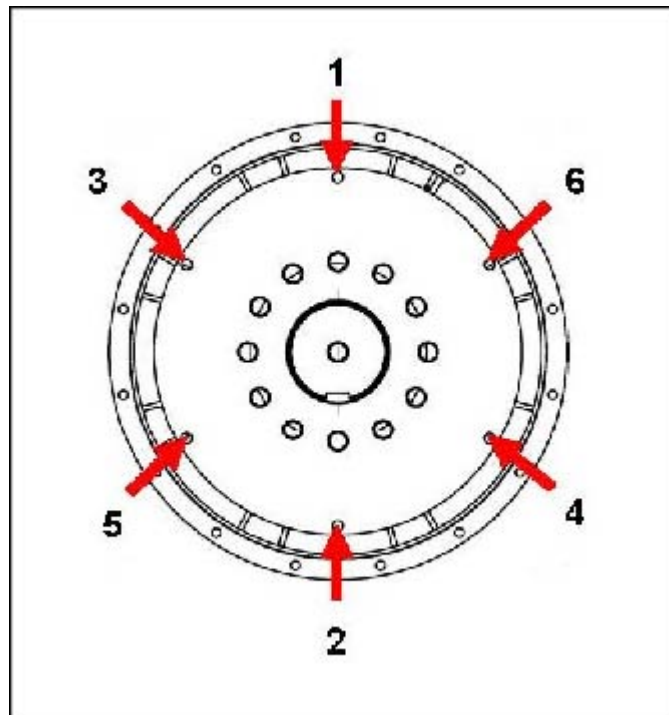

FIGURE 21. FIXING SEQUENCE TO FLYWHEEL
10. Tighten the bolts to fix the coupling disc to the flywheel, in the sequence shown in Figure 21 on page 44